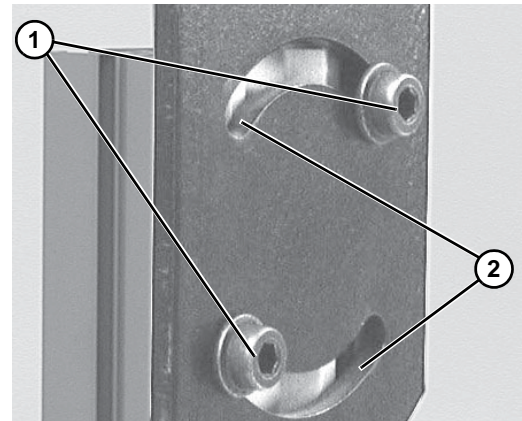

Figure 24
To rotate stand top plate, screws (Figure 24, item 1) may need to be re-located to other t-slots (Figure 24, item 2).
1. Loosen flange socket screws (Figure 24, item 1) on both sides of stand.
Failure to secure screws (Figure 24, item 1) may cause conveyor sections to drop down, causing severe injury.
TIGHTEN SCREWS (Figure 24, item 1) AFTER ADJUSTMENT.
3. Secure flange socket screws (Figure 24, item 1) to 24 ft-lb (18 N-m).